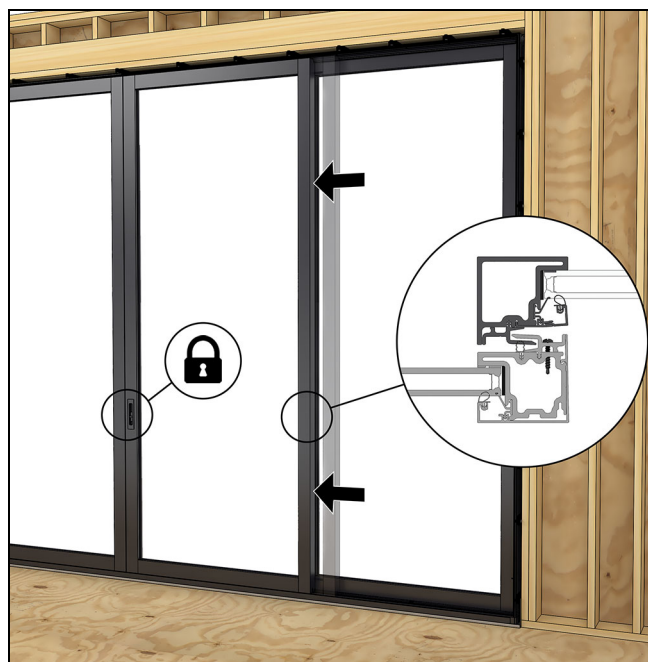

Figure 86
4. Install the (A) operator panel from the interior. Set the panel on the roller track, tip up into the frame and then slide over to engage with the (C) stationary panel interlock. Lock the panel for safety until the frame retainers are installed. See Figure 85 and Figure 86.